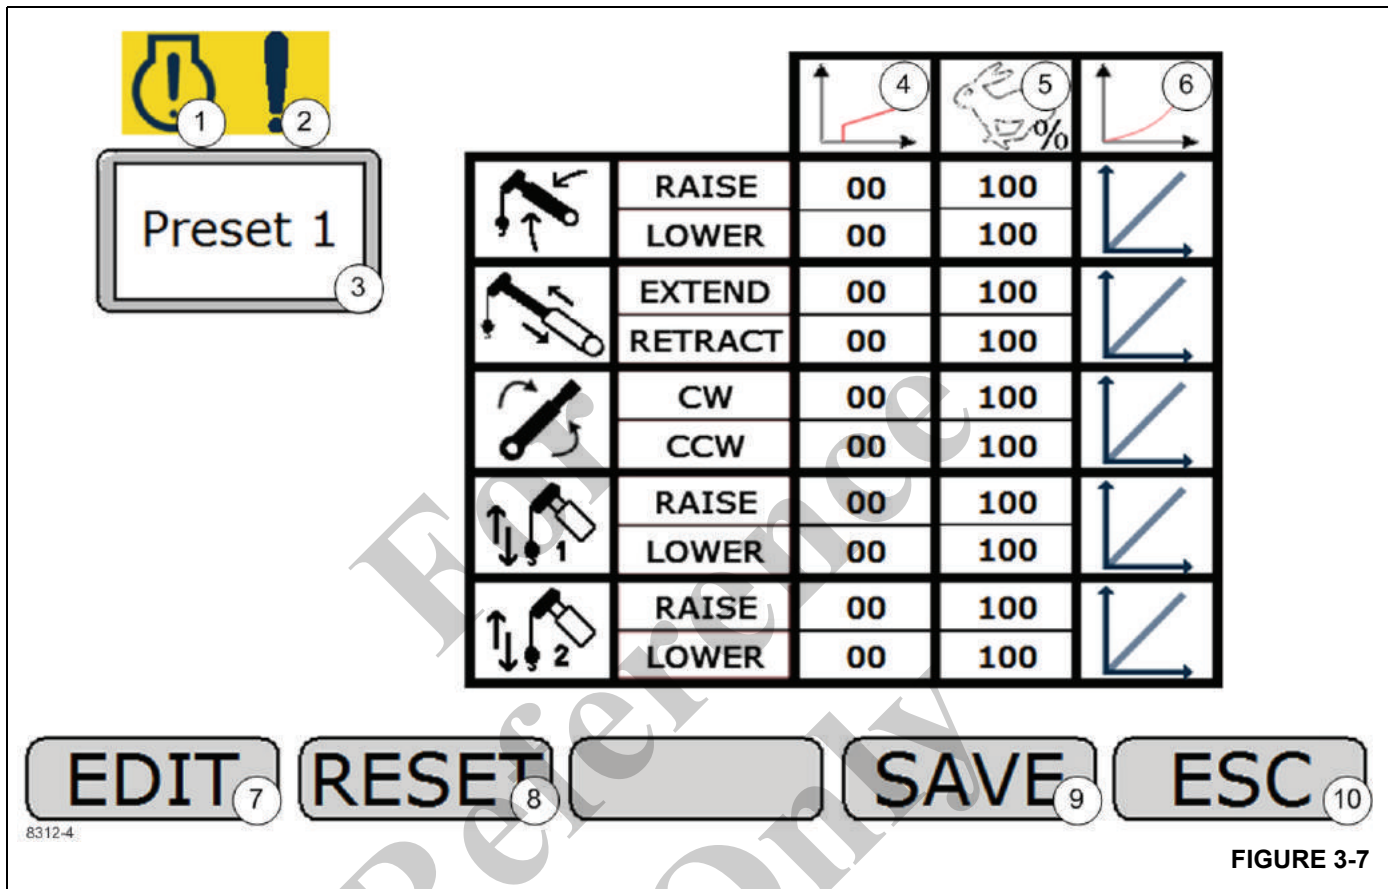

FIGURE 3-7
Modify Presets Screen 1 (Figure 3-7)
Engine Fault Active Indicator (1) (Figure 3-7)